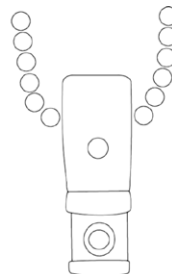

Figure 2
2. Carefully align the chain control mechanism with the control bracket (part B) (Figure 2) (this is the one with the cross). Push the blind into the control bracket, ensuring that the chain is hanging directly down. Hook into place with a gentle downward motion.
2. Install the tension device onto the reveal/frame, making sure that the loop chain hangs with minimal tension (Figure 2).